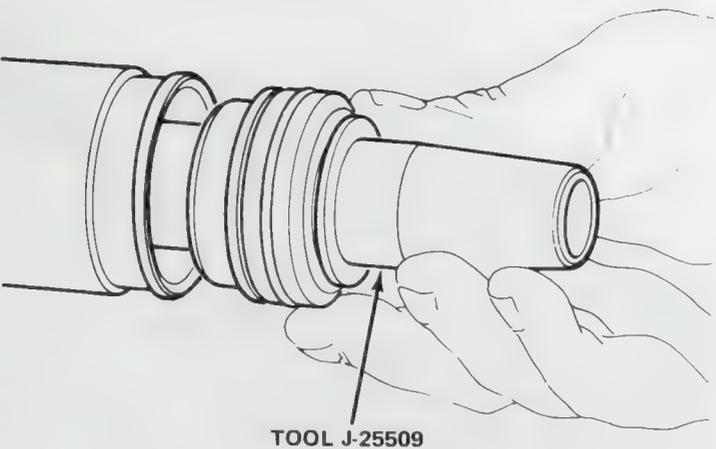

Fig. 2K-98 Bulkhead Assembly Installation
(32) Using needlenose pliers, hold preload spring against housing bore and install lower pinion bushing. Chamfered end of bushing faces inward and toward pinion shaft and flat end faces out (fig. 2K-100). Lightly tap bushing and spring until both are seated in housing.
(33) Install contraction plug in housing and seat plug using brass drift or suitable size socket.
(34) Install mounting clamp and grommet on tube. Position clamp according to alignment marks made at disassembly.
(35) Install shock dampener rings on each end of steering rack with open end of each ring facing outward.